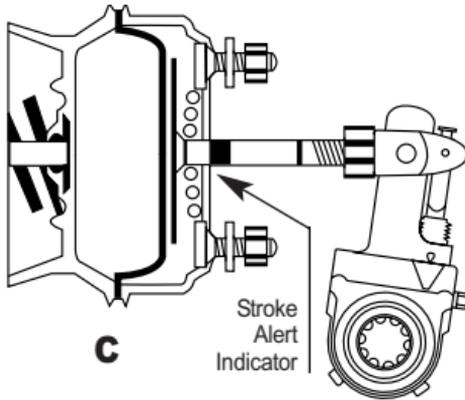

Figure 6
Some brake chamber push rods are marked to warn of an over-stroke condition. While the marking themselves may vary, the marking system has two basic features: (1) There is a mark on the brake chamber push rod near its clevis attachment to signal that it incorporates a stroke alert indicator (See fig. 6, diagram B). (2) There also is a mark on the brake chamber push rod—opposite its clevis attachment end—which is exposed from the brake chamber wherever over-stroke occurs (See fig. 6, diagram C).